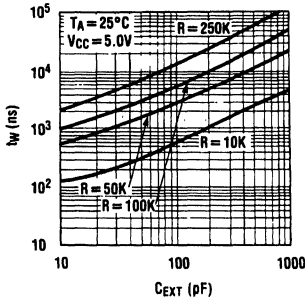

FIGURE 2
5. For $C_X < 1000$ pF see *Figure 2* for T_W vs C_X family curves with R_X as a parameter: